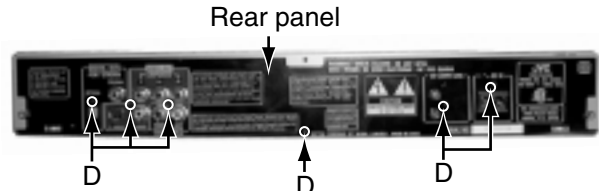

Fig.5
■ Removing the rear panel (see Fig.5)